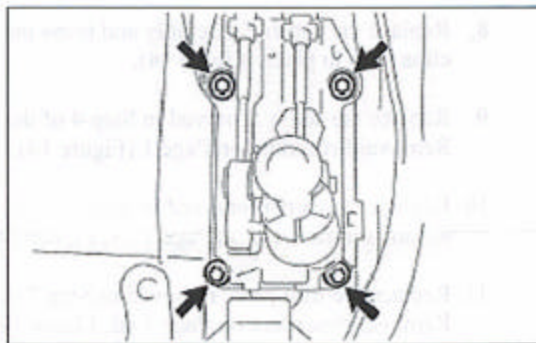

Figure 11
4. Install the TRD shift lever with the 4 bolts removed in Step 7 of the Removal Procedure on Page 2 (Figure 11).